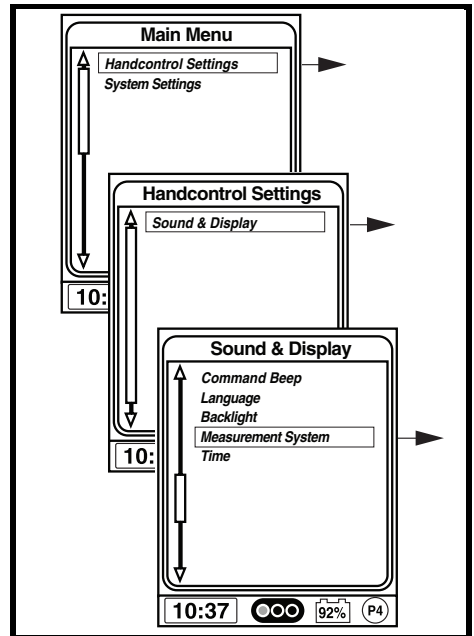

Figure 11. Menu Screens
3. Use the joystick to highlight the Handcontrol Settings option, then push the joystick right to select that function. **See figure 11.**